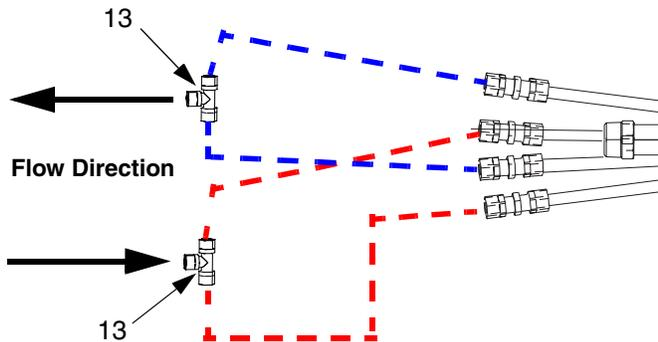

FIG. 11: Recirculation Inlet and Outlet Connections
- a. Connect tee fittings to recirculation inlets and recirculation outlet of heated hose. See FIG. 11.
- b. Connect A and B fluid inlets to shutoff check valve fluid outlets (H).
- c. Interconnect fitting (7) on Viscon HP heater (A) and fluid inlet tee fitting (13) with tubing (4). See parts illustration on page 20.
- d. Interconnect pump (3), Viscon HP heater (A), heated hose tee fitting (13) with tubing (4). See parts illustration on page 20.